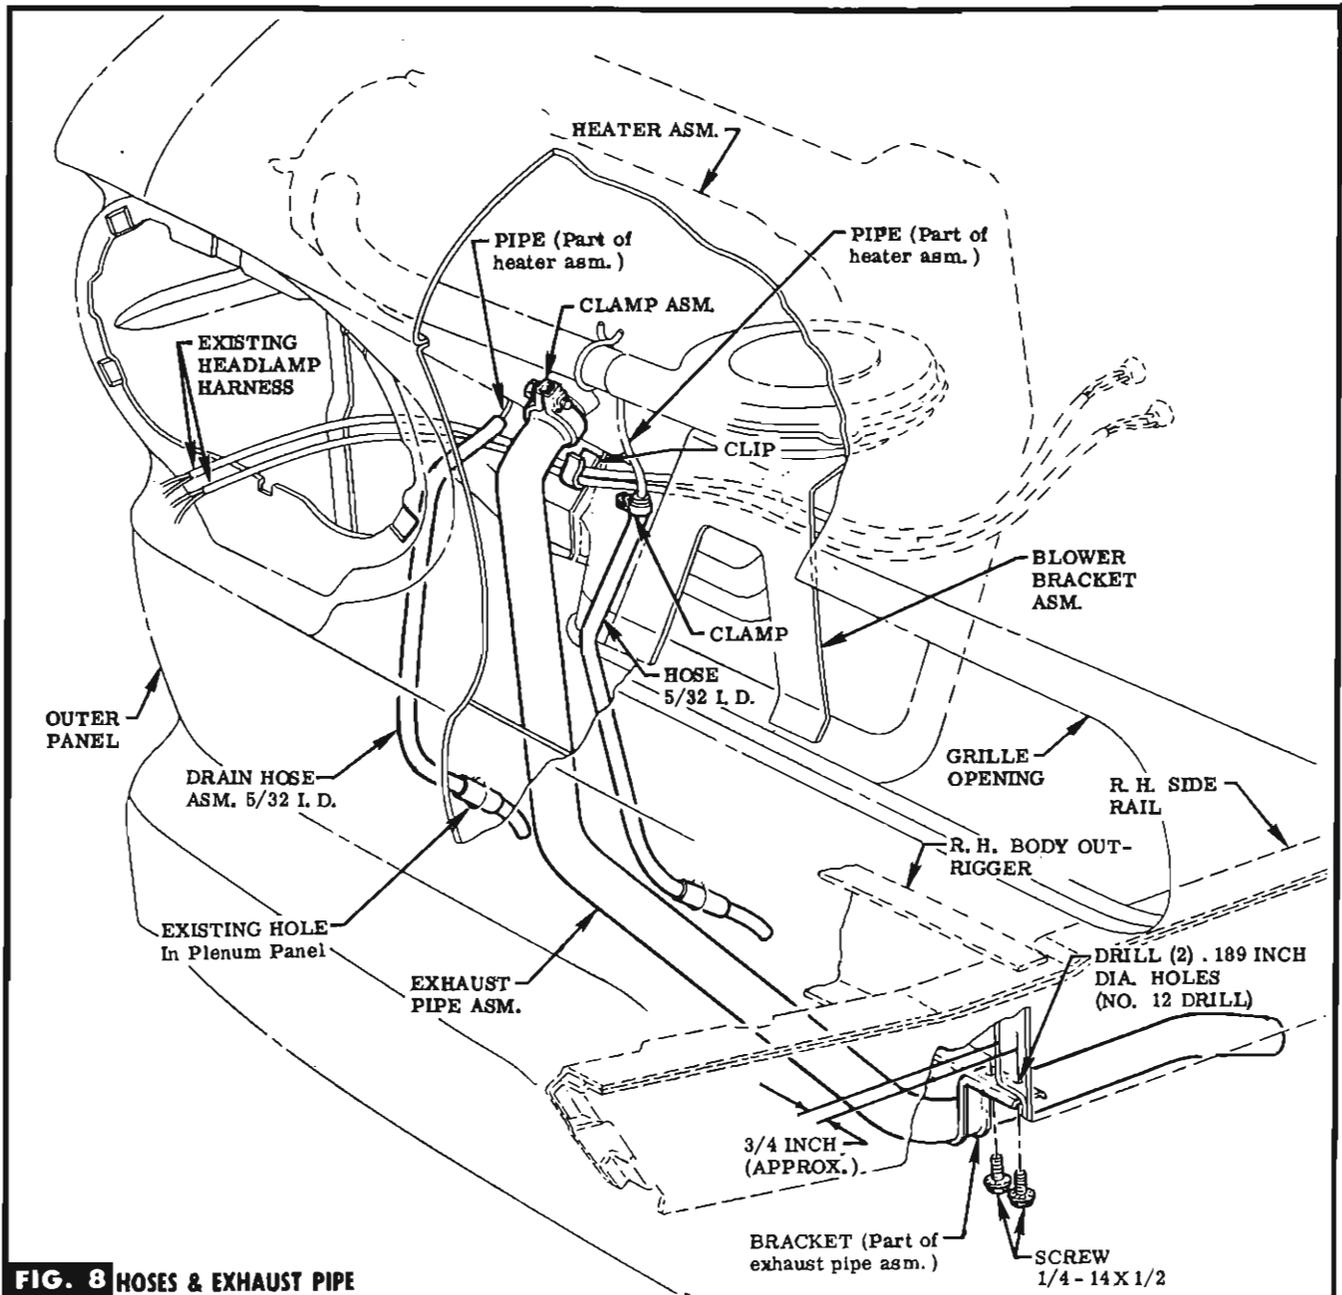

FIG. 8 HOSES & EXHAUST PIPE
STEP 36 INSERT EXHAUST PIPE THRU EXISTING OPENING IN PLENUM PANEL, FIT CLAMP ASM. PROVIDED OVER TOP & SLIDE EXHAUST PIPE OVER HEATER PIPE. SEE FIG. 8.
STEP 37 USING DIMENSIONS SHOWN & PIPE ASM. BRACKET AS A TEMPLATE, CENTER PUNCH & DRILL HOLES IN BODY OUTRIGGER & SIDE RAIL AS SHOWN. SEE FIG. 8.
STEP 38 ATTACH EXHAUST PIPE TO SIDE RAIL USING SCREWS PROVIDED (IN BAG A). SEE FIG. 8.
ING. SEE FIG. 8.
STEP 40 ATTACH GASOLINE FRONT PIPE HOSE TO HEATER PIPE WITH ATTACHING CLAMP PROVIDED (IN BAG C) & ROUTE THRU EXISTING HOLE IN PLENUM PANEL. SEE FIG. 8.
STEP 41 ATTACH DRAIN HOSE TO HEATER PIPE & ROUTE THRU EXISTING HOLE IN PLENUM PANEL. SEE FIG. 8.
STEP 42 INSTALL PREVIOUSLY REMOVED HEADLAMP. ROUTE WIRES & ATTACH TO CLIP ON COVER ASSEMBLY SEE FIG. 8.